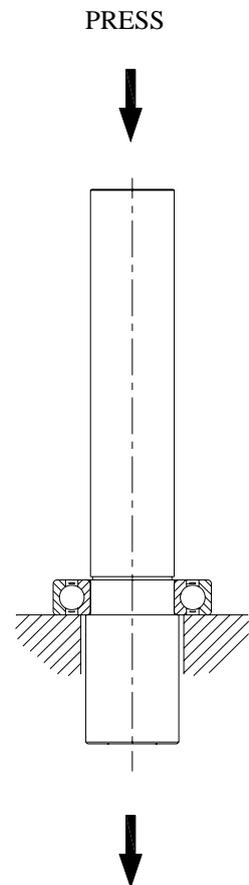

Figure 8.1.
- Remove the shaft (05) from the half shaft (26) through the studs (55A)
- Remove the screws (52) and washers (53), and take out the motor (93).
- Remove the countersunk screws (50). Hit the upper part of the half shaft (26) with a nylon hammer and take out the unit formed by the half shaft (26), ball bearing (70), base plate (42), lip seal (88) and bearing stop ring (31).
- Once in the outside of the bearings support, remove the base plate (42) from the half shaft (26) and with the aid of a nylon hammer remove the lip seal (88).
- Take off the elastic ring (66) with suitable pliers and remove the bearing (70) with a press, as shown in figure 8.1.
- Remove the countersunk screws (50). Hit the upper part of the shaft (05) with nylon hammer and take out the unit formed by the shaft (05), ball bearing (70, 70A), base plate (42), lip seal (88) and bearing stop ring (31).
- Once in the outside of the bearings support, remove the base plate (42) from the shaft (05) and with the aid of a nylon hammer remove the lip seal (88).
- Take off the elastic ring (66) of the upper ball bearing with suitable pliers and remove the bearing (70A) with a press. Then, remove the other elastic rings (66) and proceed to disassembly the other ball bearing (70) with a press, as shown in figure 8.1.